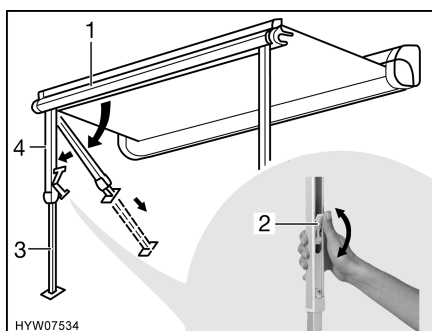

Fig. 11 Position support legs
- Release the support legs (Fig. 11,4) out of the front bar (Fig. 11,1) applying slight outward pressure.
- Pull out the lower part of the support legs (Fig. 11,3) until reaching the desired length.
- Close the lock on the support legs. In order to do this, press the catch lever (Fig. 11,2) upward.